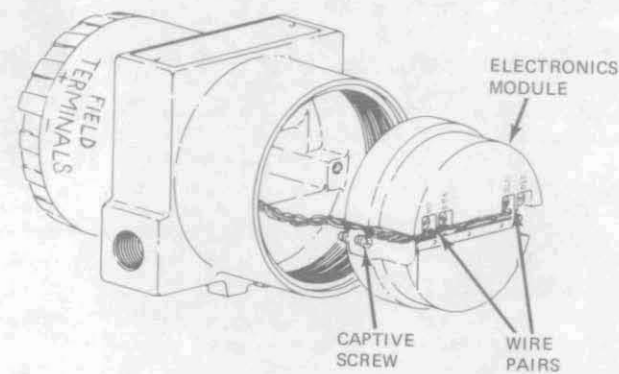

Figure 25
2. Disconnect the two pairs of wires (Figure 25) from terminals. Note how pairs are positioned in grooves in electronics module.